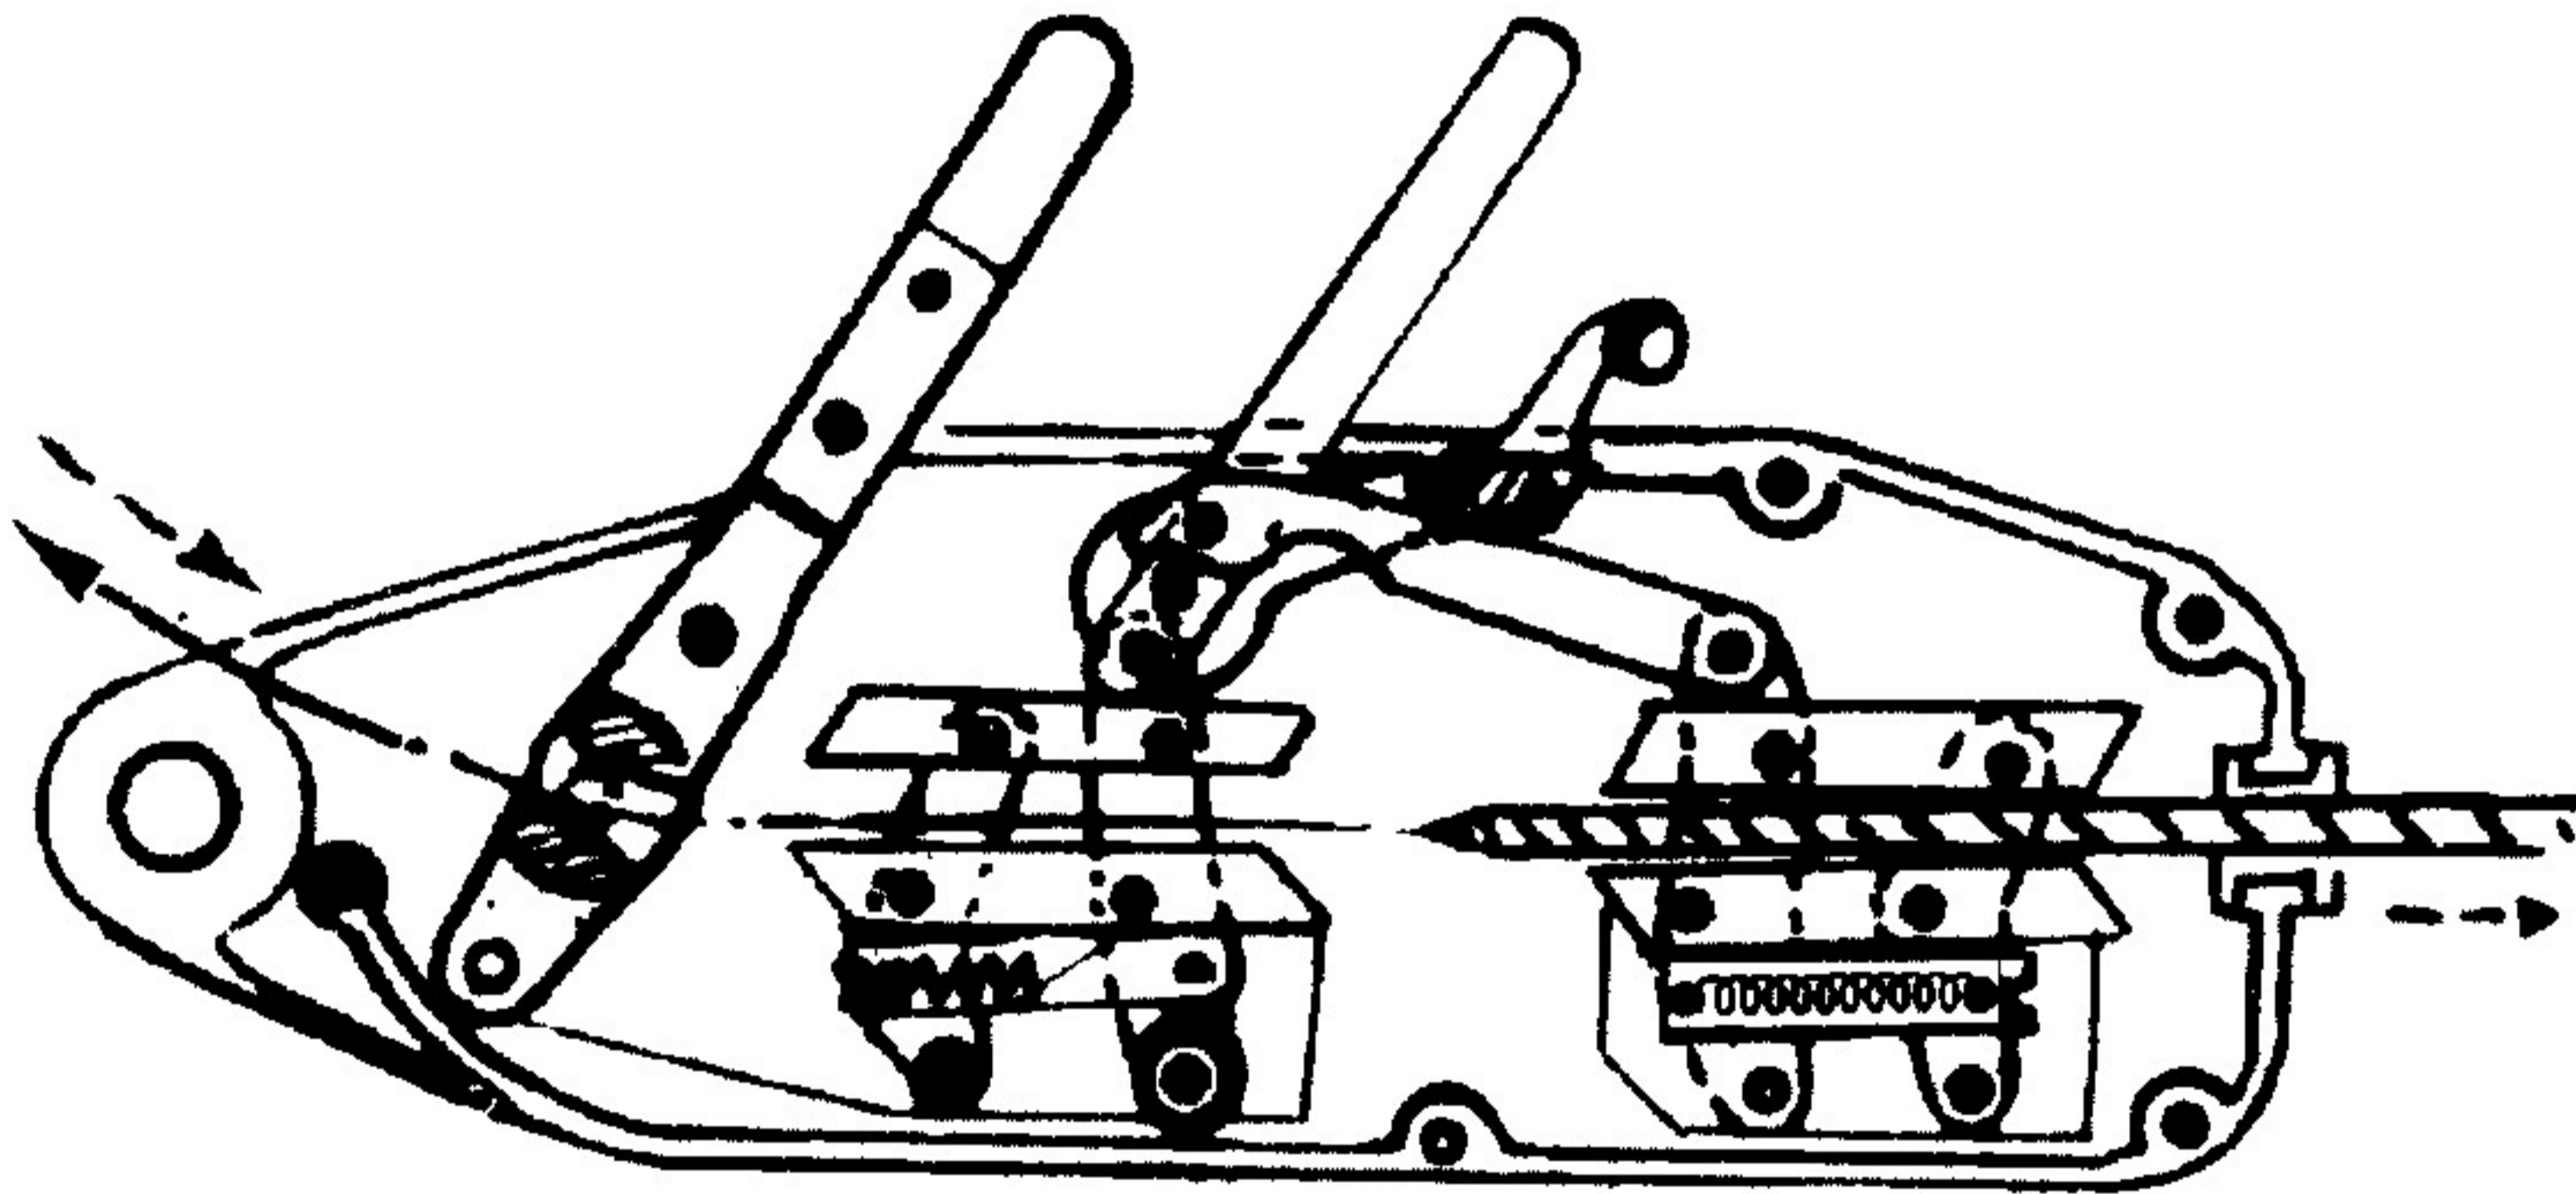

Fig1. Rope reeving and Rope receiving:
1. Reeve : (Fig. 1) With the rope head downward and pressing the hoister, push the relaxed handle .When hearing the soundclick,pliers mouth has been opened. Then you can teeve the wire rope from the back hole to the hoister.After the rope is out,the rope can be pulled to the length that you need and then push the relaxed hanele back to clamp the rope tightly. When the forward handle or the backward handle pulled, the wire rope will automatically go into or come out of the hoister. Thus, the machine is in the normal state and it is teady to be used.
(4.) **Draw the rope out (Fig. 1):** Having finished the work, the pliers mouth will be opened as soon as the relaxing handle is pushed and then the wire rope can be drawn out of the end of the hoister. Clean the dirt on the rope, wind it onto the reel cross in good order to be ready to use next time.